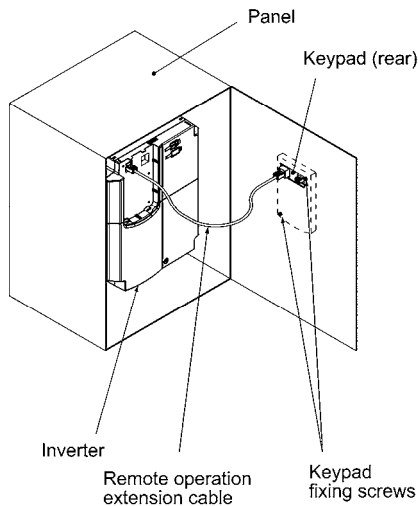

Figure 3.3-20 Mounting the Keypad on the Panel
- Mounting it on the panel (See Figure 3.3-20.)